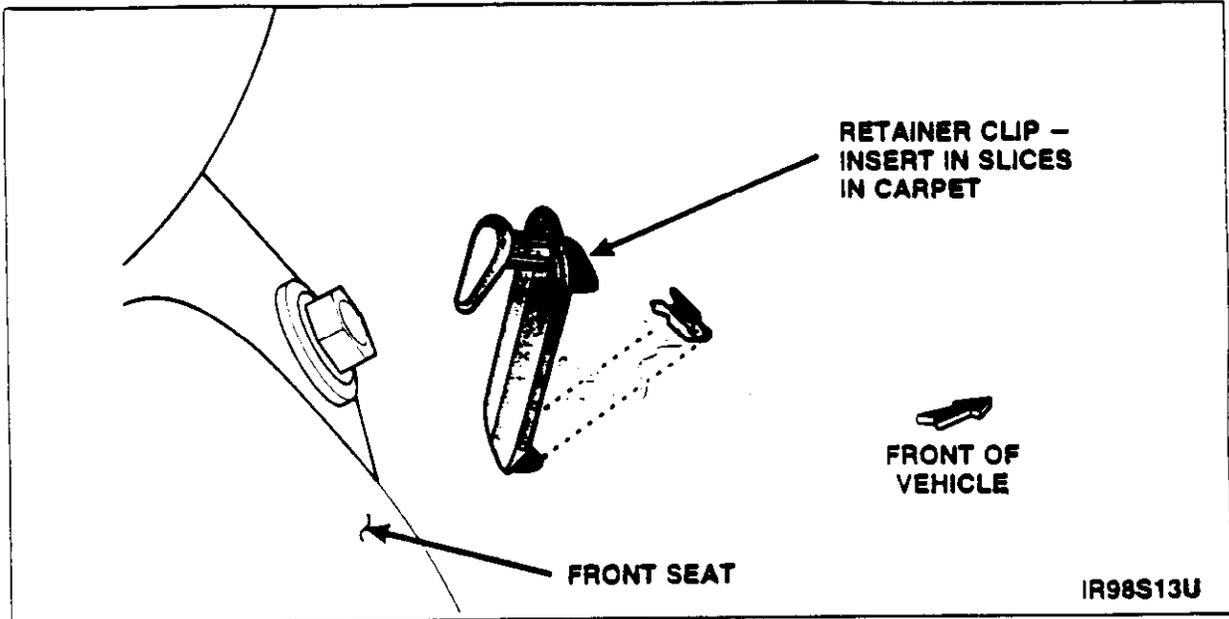
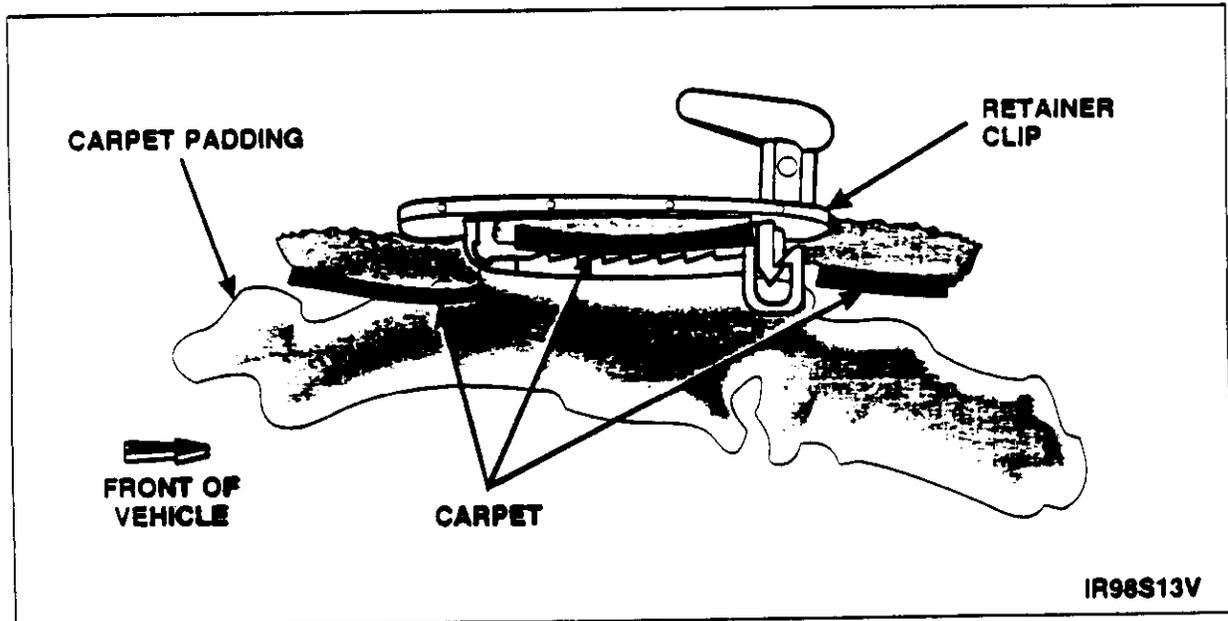

FIGURE 26
FIGURE 27
16. Insert floor mat retainer clip into cuts in carpet as shown in Figure 26. Clip must be between carpet and padding. Refer to Figure 27.